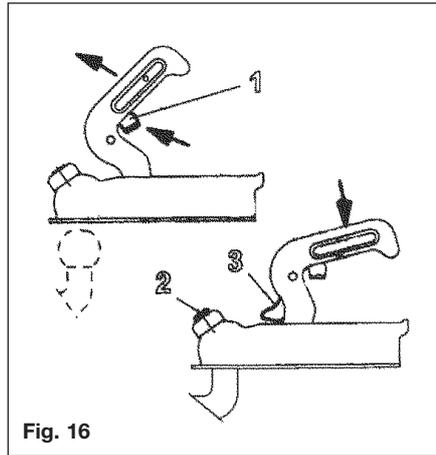

Fig. 16
Push the safety lever (Fig. 16/Item 1) up with the index finger and lift the handle up and forwards. Put the opened coupling onto the towball with the handle pulled up and in addition press down by hand. The coupling will close by applying a light pressure. Press the handle down by hand until the catch snaps out (Fig. 16).
The coupling head is correctly engaged when the green cylinder part of the safety indicator is visible (Fig. 16/item 2).